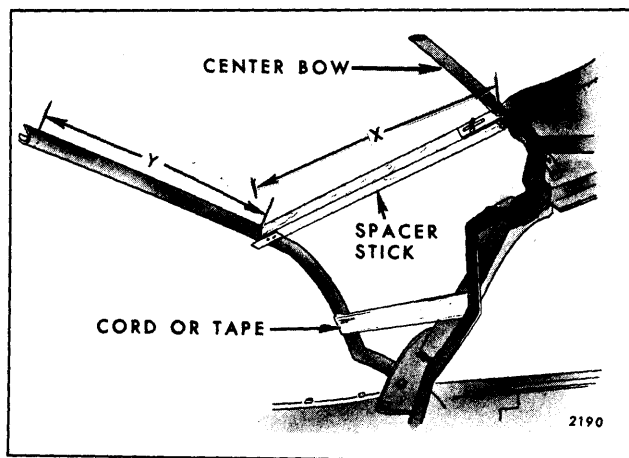

Fig. 13-4—Spacer Stick Installation
10. Lock top to windshield header and install spacer stick along inboard edge of each side stay pad (Fig.13-4).